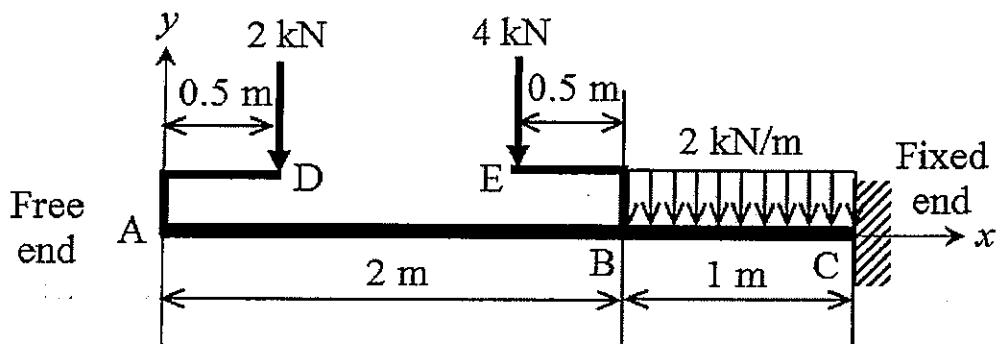

Figure 3
3. A cantilever ABC is subjected to two concentrated forces and uniformly distributed load as shown in Figure 3. Rigid members AD and BE are firmly fixed to the cantilever. The beam has constant EI . Ignore the weight of the cantilever and the rigid members.